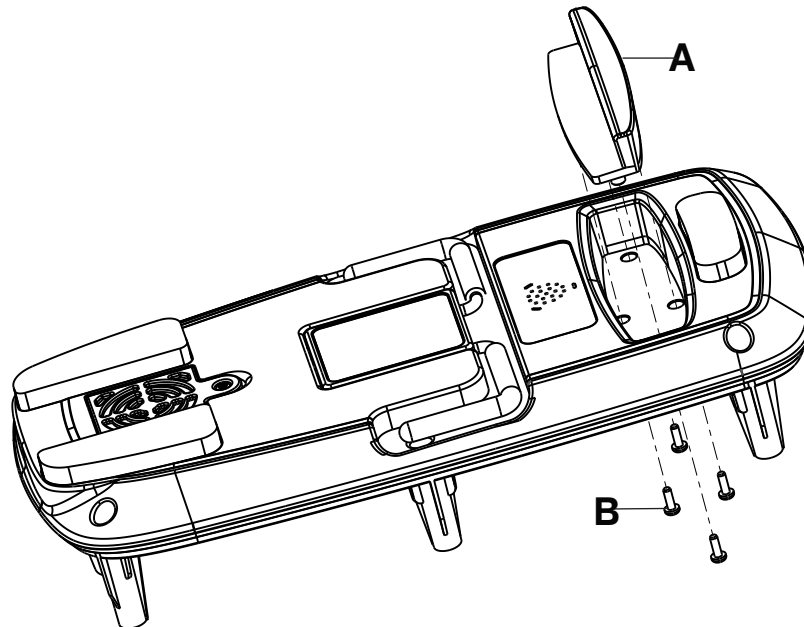

Figure 12 – Transport handle
11. Using a #2 Phillips screwdriver, remove the four screws (B) that secure the transport handle (A) to the back pump housing (Figure 12). Save the screws.